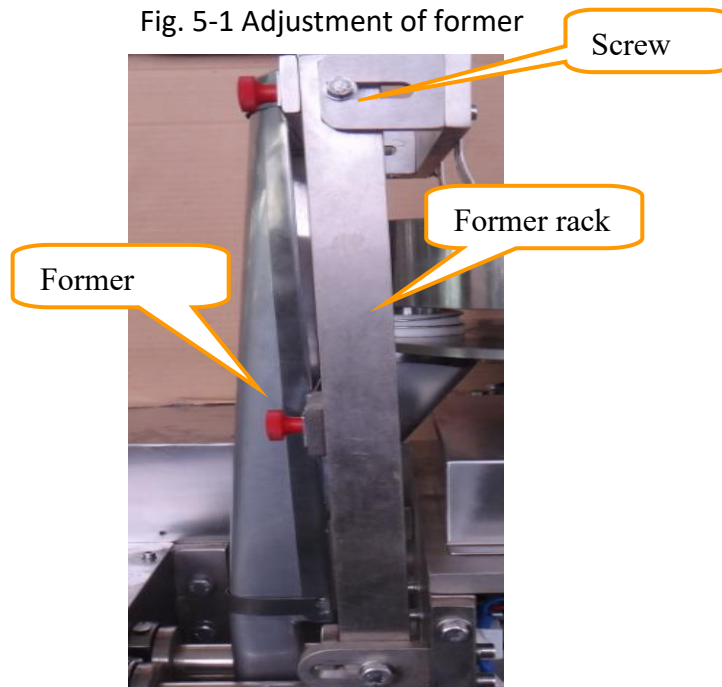

Fig. 5-2 Adjustment of former
4. As shown in fig. 5-2, loosen the screws on both left and right sides of the supporting seat, move the former rack inward appropriately to widen the vertical sealing margin; contrarily, move the rack outward appropriately to narrow the margin; such adjustments (generally 5-6 mm) can be carried out according to actual needs.